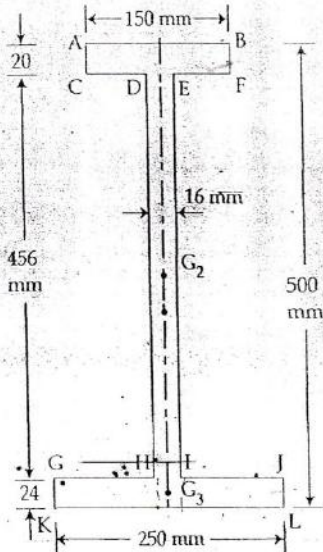

Fig. 3
- (b) For the I section shown in fig : 3 determine the position of centroid and moment of inertia about the base flange (I_{KL}). 10+10=20